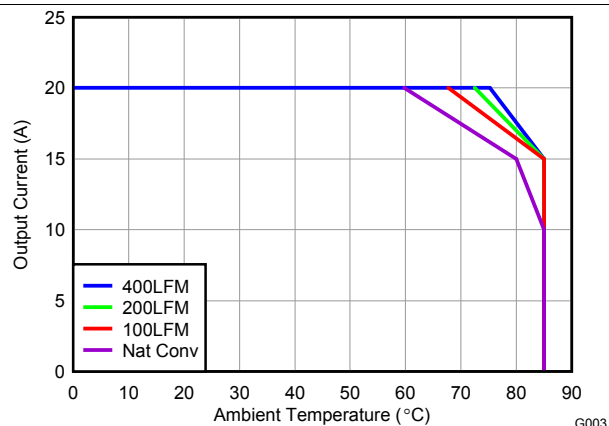
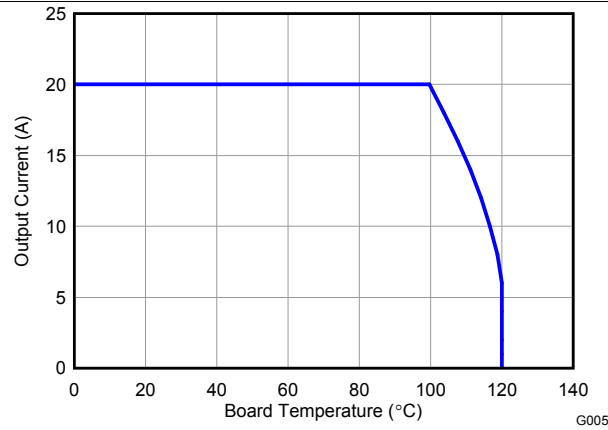

Figure 3. Safe Operating Area – PCB Vertical Mount(1)
Figure 5. Typical Safe Operating Area(1)
The SOA curves in the CSD86330Q3D data sheet provides guidance on the temperature boundaries within an operating system by incorporating the thermal resistance and system power loss. **Figure 3** to **Figure 5** outline the temperature and airflow conditions required for a given load current. The area under the curve dictates the safe operating area. All the curves are based on measurements made on a PCB design with dimensions of 4" (W) × 3.5" (L) × 0.062" (T) and 6 copper layers of 1 oz. copper thickness.